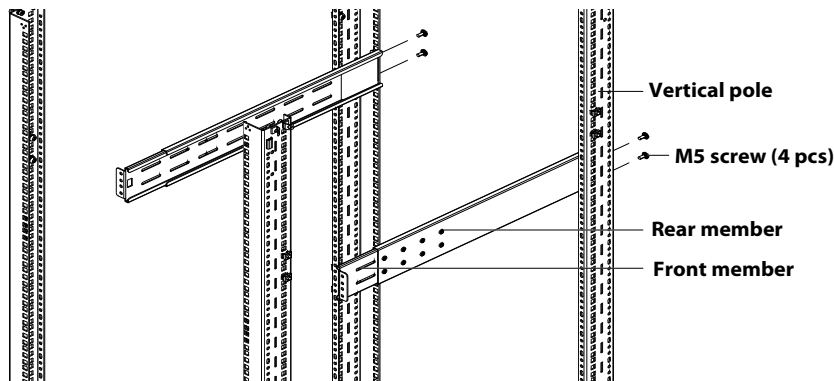

Figure 9: Installing rear member of each slide rail assembly
4. Attach the rear member of each slide rail assembly to the rack's rails with two factory-supplied M5 screws (see Figure 9).